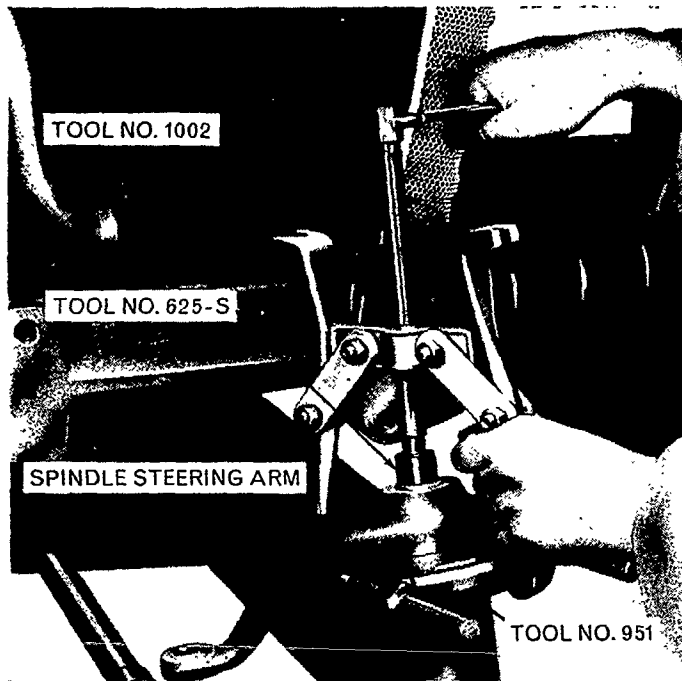

Figure 7
9. Remove the steering spindle arm from the wheel spindle. If arm is tight on the spindle use Tools 1002, 951 and 625 to remove, Figure 7.